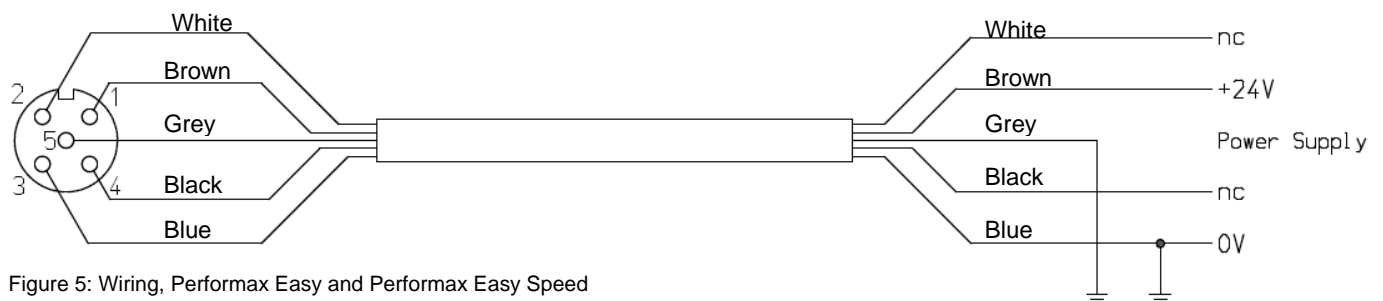

Figure 5: Wiring, Performax Easy and Performax Easy Speed
- Attach the wiring as shown in Figure 5.